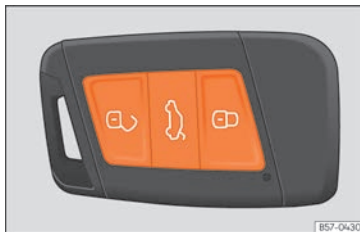

Fig. 78 Remote control key: buttons.
- Lock: press the  **Fig. 78** button.